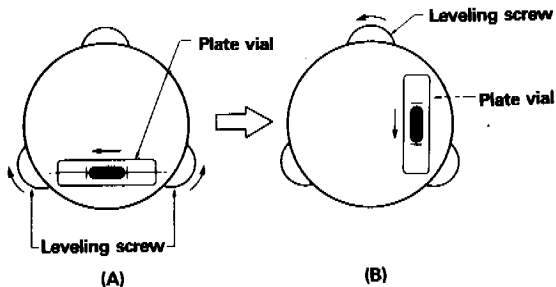

Fig. 4
1. Place the plate vial in parallel with a line joining any two of the leveling screws. Adjust the two screws, and position the bubble in the center of the level (A of Fig. 4). (To adjust the screws at the same time, turn in opposite directions.)
2. Rotate the plate vial through  $90^\circ$  around the vertical axis. Adjust the remaining leveling screw so that the bubble comes to the center of the plate vial (see Fig. 4 (B) ).
- See arrows in Fig. 4 (A) and (B) for the relation between the direction of leveling screw rotation and the bubble shifting direction.